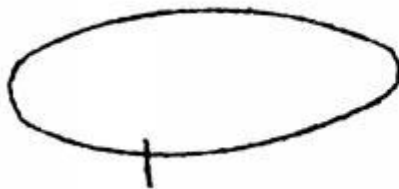
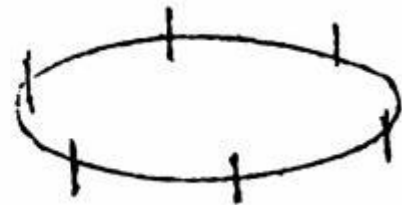

Fig. 11a
Fig. 11b
(7) Thyristor element (Fig. 11a), waveform characteristics: fixed position, each element generates an independent signal. When the circuit is connected and the electromagnetic coupling effect is enhanced, the signal amplitude increases. During the voltage regulation test, the pulse signal will generate high frequency waveform broadening, thus increasing the space occupation (Fig. 11b). The reason is that there are silicon controlled elements nearby in operation.